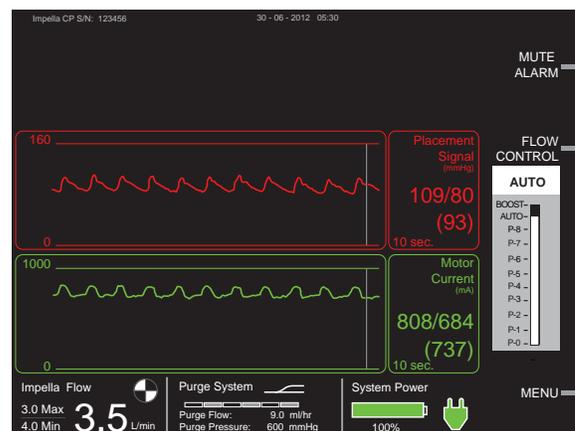

Figure 5.37 FLOW CONTROL Options for the Impella® 2.5 and Impella CP® Catheter
4. Once the controller has begun to run in AUTO, pressing the **FLOW CONTROL** soft button again opens the FLOW CONTROL menu with options for **BOOST**, **AUTO**, and P-levels ranging from P-0 to P-8 as shown in Figure 5.37 and described in the “Modes of Operation” discussion that follows.